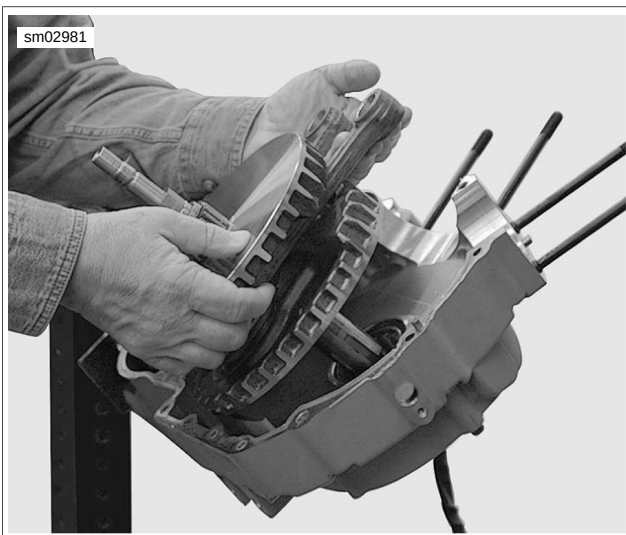

Figure 3-120. Removing Flywheels from Left Crankcase
- See Figure 3-120. Remove the flywheel assembly from left crankcase half.